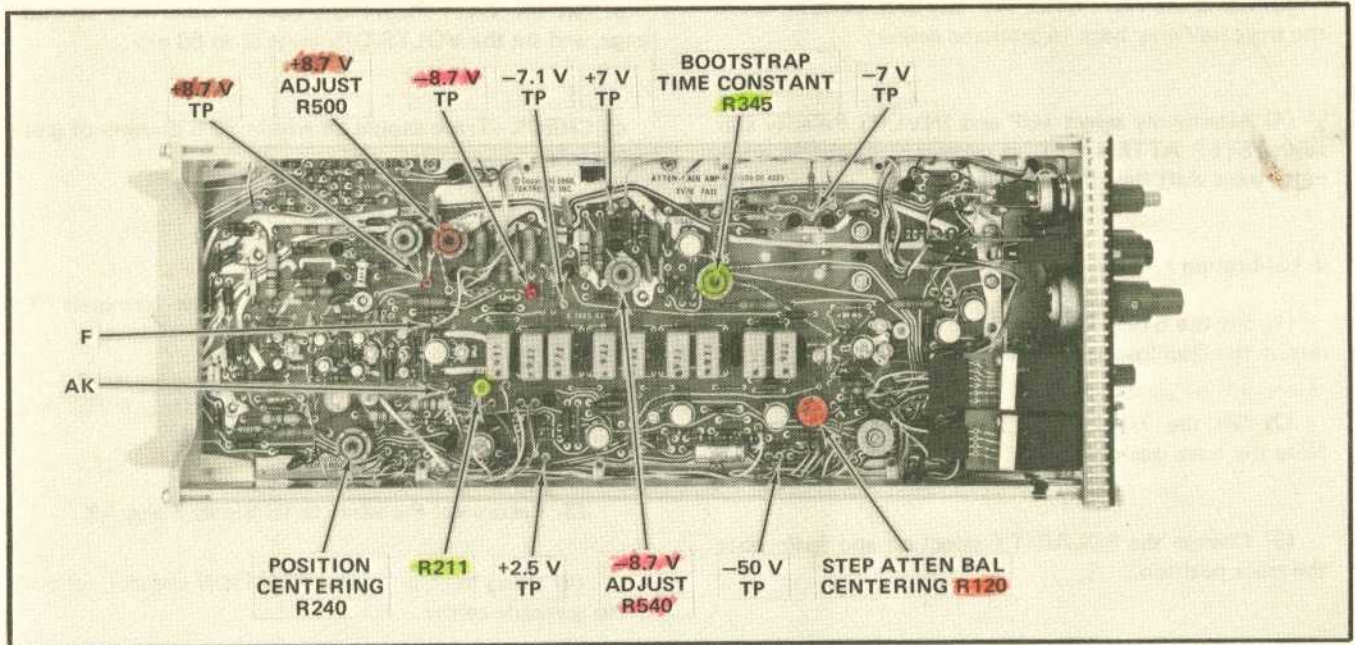
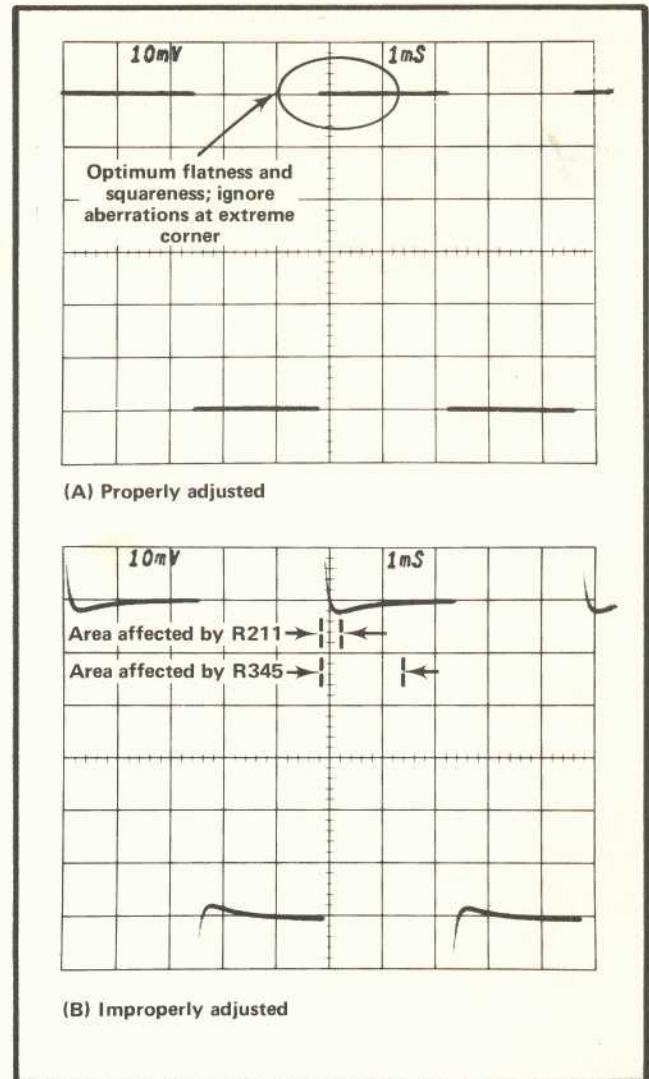

Fig. 5-4. Test point and adjustment locations for steps 1 through 4.
Fig. 5-5. Mid-frequency response waveforms, step 4.
b. CHECK—Voltages. Using the DC Voltmeter (item 3), check the voltages listed in Table 5-3. Test points are shown in Fig. 5-4.
c. ADJUST—+8.7 V ADJUST, R500, and -8.7 V ADJUST, R540, (Fig. 5-4) as necessary to have the applicable power supplies within allowable values. Note that R540 also controls the -7.1 V supply. The +7 V, -7 V, and +2.5 V supplies are not adjustable.
(1) Set the STEP ATTEN BAL to midrange and pull out on the Oscilloscope Beam Finder knob.
(2) Set the 7A11 POSITION control to midrange. Note the trace position.
(3) Change the POLARITY selection and again note the trace position.
(4) ADJUST—STEP ATTEN BAL CENTERING, R120 (Fig. 5-4) as necessary to set the trace halfway between the two observed positions.
(5) Alternately select +UP and INVERT Polarity and adjust ATTEN BAL CENTERING R120 (Fig. 5-4) as necessary to obtain minimum trace shift.
(6) Using the 7A11 POSITION control, set the trace to graticule center.
(7) Return the Beam Finder switch to normal by pushing in and releasing it.
(8) Alternately select +UP and INVERT Polarity and adjust ATTEN BAL CENTERING R120 (Fig. 5-4) as necessary to obtain minimum trace shift.
(9) Select + UP Polarity at the 7A11.
(1) Disconnect the connectors from terminals "F" and "AK" (Fig. 5-4).
(2) ADJUST—POSITION CENTERING R240 (Fig. 5-4) to move trace to graticule center.
(3) Reconnect the wires to terminals F and AK.
(4) Using the front-panel POSITION control, set trace to graticule center.
(5) CHECK—knob index should be within approximately  $10^\circ$  of top-center.
(6) ADJUST—knob to top center (loosen set screw) with trace at graticule center.
(7) CHECK—knob should be approximately centered in its stop-to-stop travel range.
b. Connect the following components to the Fast Rise + Output of the Type 106 Square Wave Generator (item 4) in the sequence given: 5X GR Attenuator (item 15), 50  $\Omega$  Termination/Adapter (item 12), 7A11 Probe.
e. Check that the Time Base sweep rate is at 1 ms/division and adjust the Time Base Triggering controls to obtain a triggered display as in Fig. 5-5(A).
f. CHECK—Mid-frequency response. The displayed top-left corners should be square with optimum flat top as in Fig. 5-5(A). Overshoot, rounding and tilt should not exceed .05 division peak to peak.
g. (Calibration Procedure only.) ADJUST—R211 and R345 (Fig. 5-4) for optimum square corner and flatness. Rounding, overshoot and tilt should not exceed .05 division peak to peak. Use Fig. 5-5 as a reference. (Observing the display at 5 ms/division may aid in performing the adjustment.)